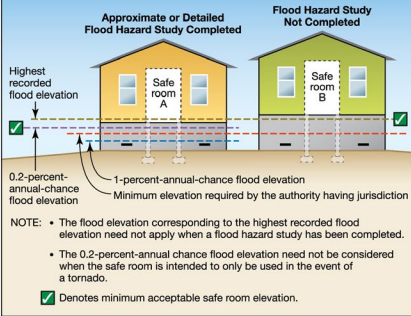

Figure 1. The elevation of a safe room floor should be at or above the highest applicable flood elevation
Residential safe rooms designed, constructed, and designated solely for use as a tornado safe room do not need to consider Item 1 when determining the minimum required elevation. Figure 1 shows examples of how to determine the minimum elevation for a safe room floor. The difference between the two safe rooms is that the one on the left (A) is in an area where a flood hazard study has been completed and the one on the right (B) is not. For safe room A, the flood elevation for the 0.2-percent-annual-chance flood event will be the minimum elevation used because Item 2 does not apply when a flood hazard study has been completed. Therefore, the lowest floor of the safe room should be at or above the 0.2-percent-annual-chance flood elevation. The lowest floor for safe room B should be at or above the highest recorded flood elevation.